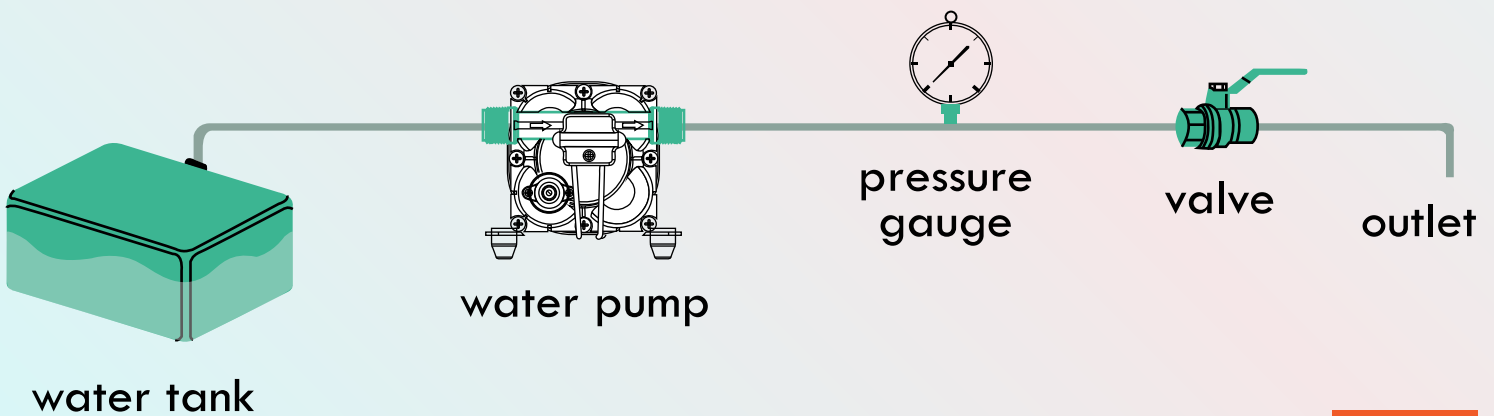

FIG 3
5. Find a suitable $\frac{1}{2}$ " hose and connect both (Inlet & Outlet) pump ports ($2 \times \frac{1}{2}$ "-14 NPSM) to their appropriate location. The Inlet Port port should be connected to your water source (Ex. Water Tank) and the Outlet Port should be connected to your Outlet Location (Ex. Faucet) (**FIG 3**).